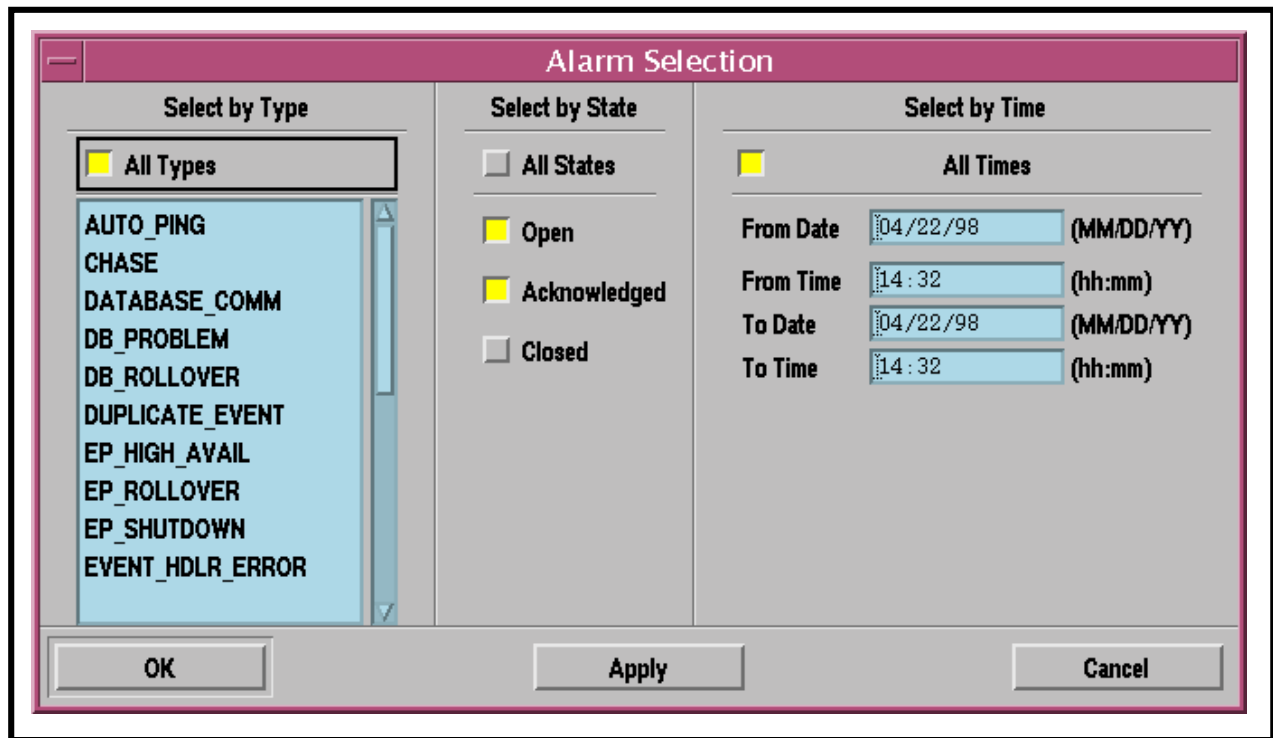

Figure 47. Alarm Selection GUI
- **Alarm Selection** GUI (Figure 47) is displayed.